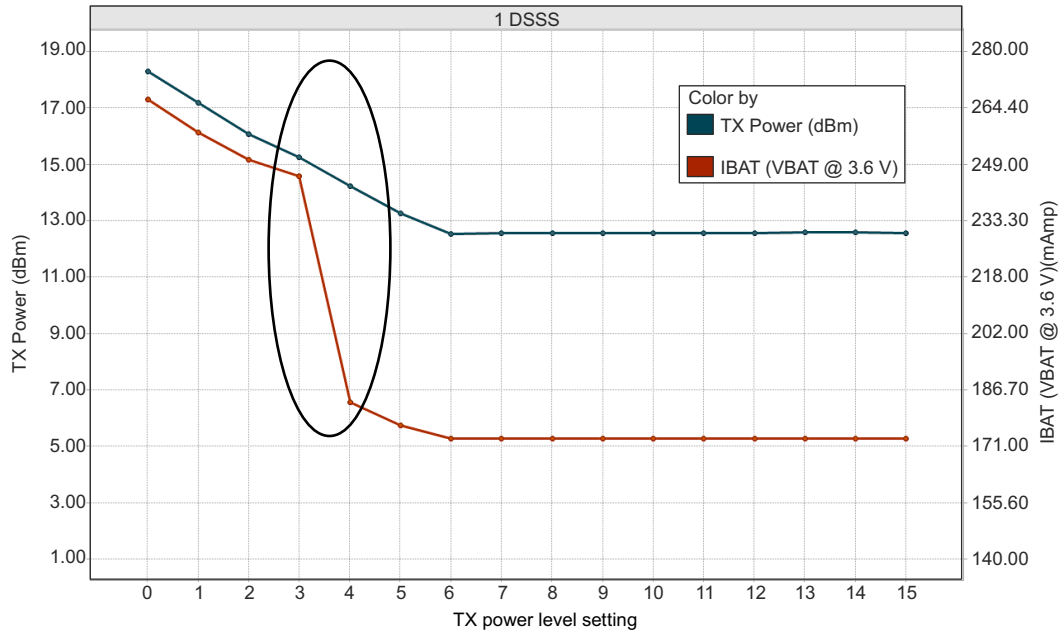
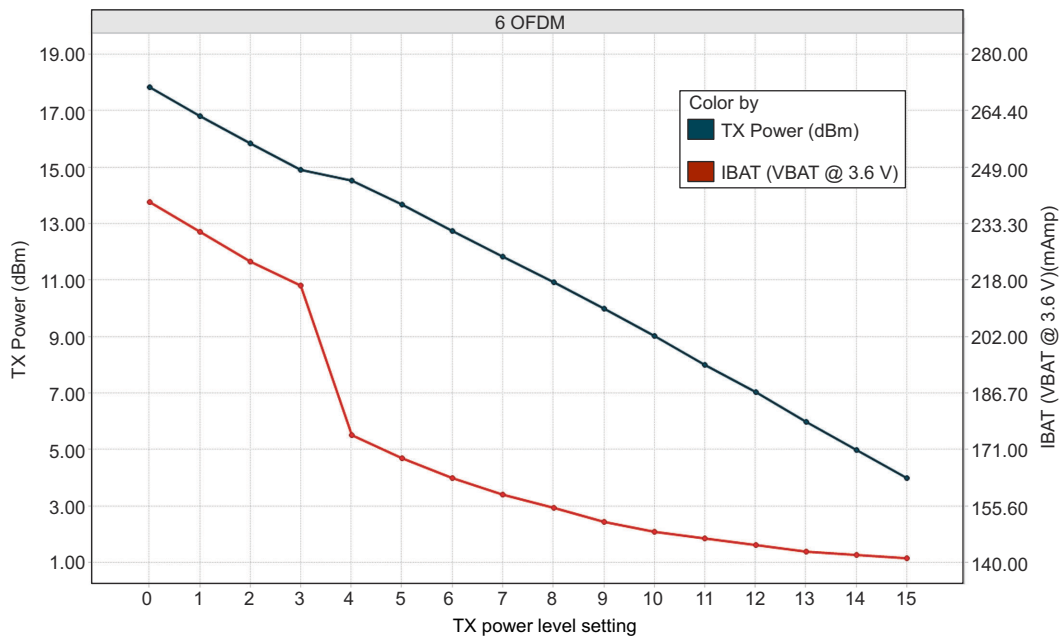
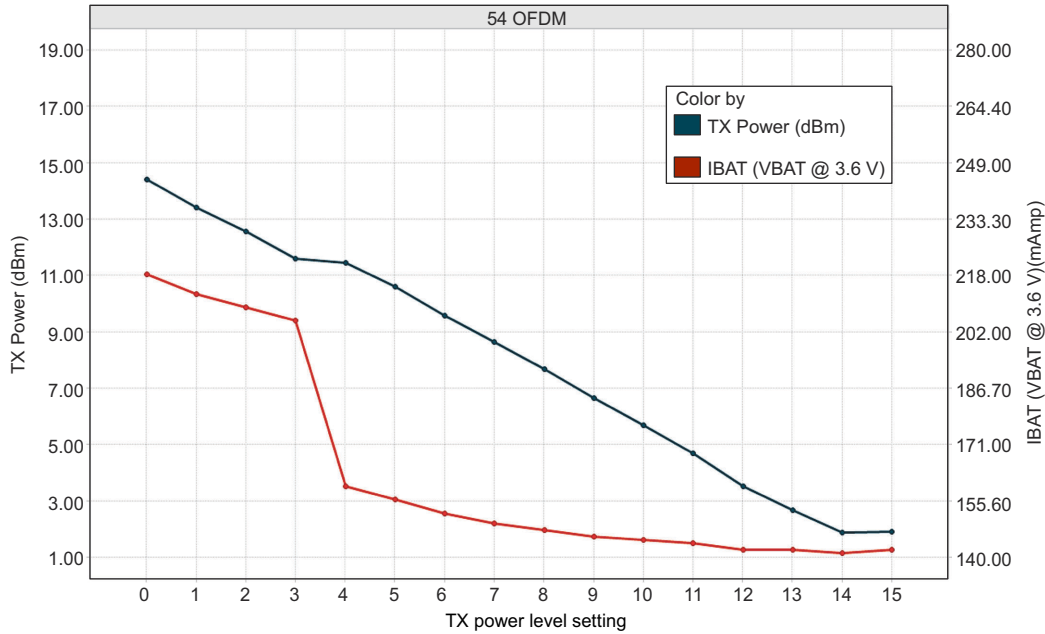

图 7-1. TX Power and IBAT vs TX Power Level Settings (1 DSSS)
图 7-2. TX Power and IBAT vs TX Power Level Settings (6 OFDM)
图 7-3. TX Power and IBAT vs TX Power Level Settings (54 OFDM)
- (1) TX power level = 0 implies maximum power (see 图 7-1, 图 7-2, and 图 7-3). TX power level = 4 implies output power backed off approximately 4 dB.
- (2) The CC3135 system is a constant power-source system. The active current numbers scale based on the V_{BAT} voltage supplied.
- (3) The RX current is measured with a 1-Mbps throughput rate.
- (4) DTIM = 1
- (5) The complete calibration can take up to 17 mJ of energy from the battery over a time of 24 ms. In default mode, calibration is performed sparingly, and typically occurs when re-enabling the NWP and when the temperature has changed by more than 20°C. There are two additional calibration modes that may be used to reduced or completely eliminate the calibration event. For further details, see CC31XX CC32XX SimpleLink™ Wi-Fi® and IoT Network Processor Programmer's Guide.
- (5) The complete calibration can take up to 17 mJ of energy from the battery over a time of 24 ms. In default mode, calibration is performed sparingly, and typically occurs when re-enabling the NWP and when the temperature has changed by more than 20°C . There are two additional calibration modes that may be used to reduced or completely eliminate the calibration event. For further details, see CC31XX, CC32XX SimpleLink™ Wi-Fi® and IoT Network Processor Programmer's Guide.
图 7-1, 图 7-2, and 图 7-3 show TX power and IBAT versus TX power level settings for the CC3135 device at modulations of 1 DSSS, 6 OFDM, and 54 OFDM, respectively.
In 图 7-1, the area enclosed in the circle represents a significant reduction in current during transition from TX power level 3 to level 4. In the case of lower range requirements (14-dBm output power), TI recommends using TX power level 4 to reduce the current.